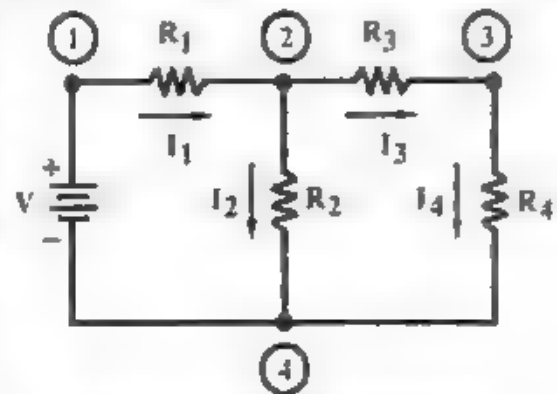

Fig. 1.52 Simple Resistive Network for Node Analysis
Ans. To determine the equilibrium equation on the node basis we make use of the Kirchhoff's current law (KCL). Let us consider the simple resistive network to represent the procedure used in node analysis as shown in fig. 1.52. There are four nodes, namely (1), (2), (3) and (4). For a convenience, the negative terminal of an active element is selected as the reference node, we select node (4) as the reference node and assume its potential to be zero.
With reference to fig. 1.52, the node voltage V_{14} is known to be equal to the battery voltage. Having identified the unknown voltages, our next aim is to write network equations in terms of these unknown voltages.